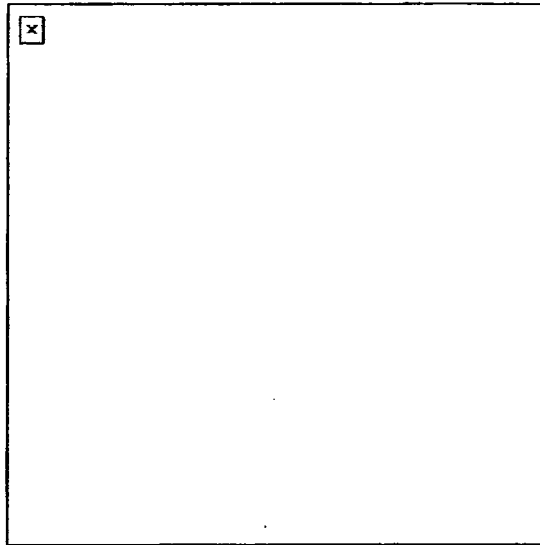

Figure 20. Attachment of the top cover assembly.
- (1) Place the tray in the top of the feeder, recessed side up.
- (2) The pinholes on the tray should line up with the lugs on the receiver.
- (3) Position the feed slide assembly by lining up the tabs with the slots on the tray.
- (4) Insert the tabs into the slots. Drop the feed slide assembly into the tray and move it slightly to ensure engagement.
- f. Attach the top cover assembly (Figure 20).